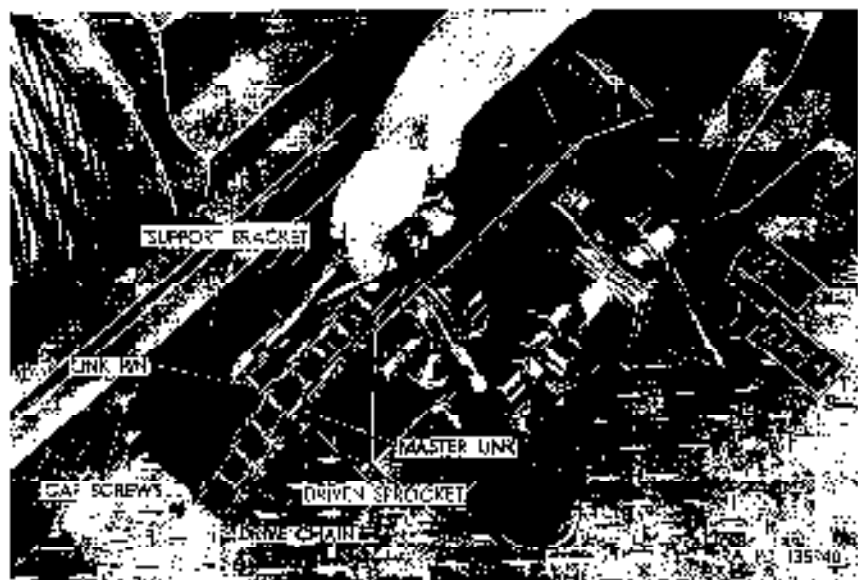

Figure 281 Separating your winch drive chain 1602.
- (2) Operate winch (par. 52c), turning drum in small increments, until master link (fig. 281) in chain is visible.
- (3) Remove cotter pin and link pin (fig. 281) from master link, and separate ends of chain. Remove chain from sprockets.
- (2) Place drive chain (fig. 278) around sprockets, pull ends of chain together, and install link pin (fig. 281). Install cotter pin in end of link pin.
- (3) Tighten nuts on bearing assembly mounting studs and bolts to 50 to 60 pound-foot torque. Check drive chain for proper tension ($1\frac{1}{2}$ -inch deflection at midpoint between drive sprocket and driven sprocket). If necessary, remove bearing assembly and add or remove spacing shims until proper chain tension is obtained.